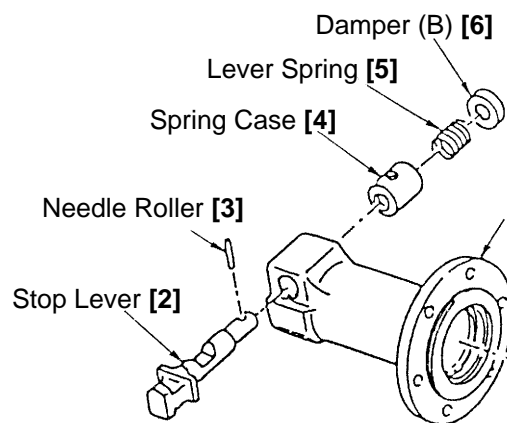

Fig. 13
Prior to reassembly, thoroughly coat the grease (Doubrex 251, Part No. 980757, is recommended) on the sliding portion of the Stop Lever [2]. As illustrated in Fig. 13, place the end surface of the Stop Lever [2] on the flange portion of the Front Cover [7] and compress the Lever Spring [5] by pressing the Damper (B) [6] with two slender minus screwdrivers. Then, align the holes of the Stop Lever [2] and the Spring Case [4], and insert the Needle Roller [3].